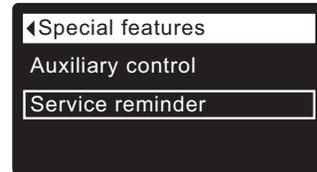

FIG. 81
5. Press the SELECT (O) button to display the Special features menu (See Figure 81).
9. Press the SELECT (O) button. The display will go back to the Special features menu (Figure 81).